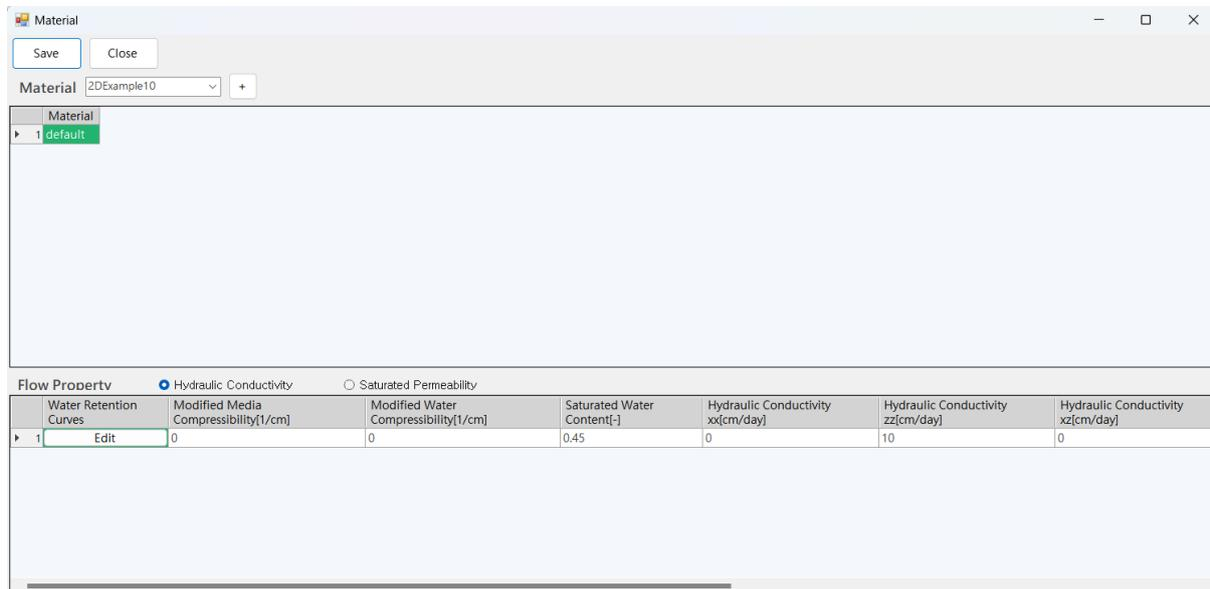
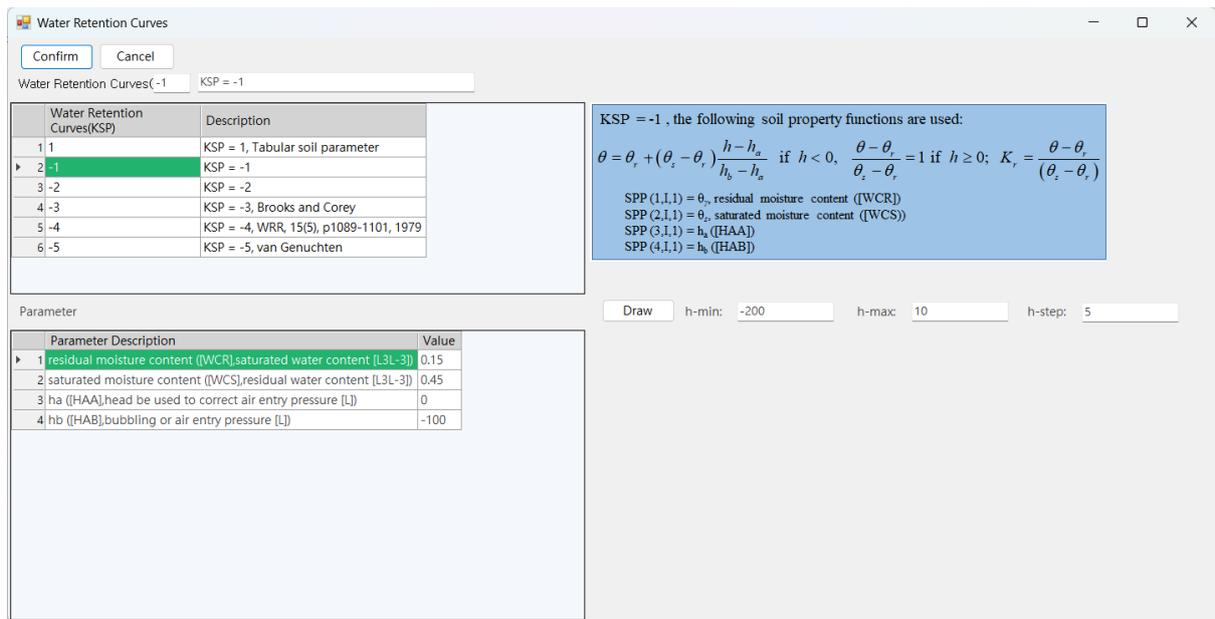

Figure 1.36. Material window.
Figure 1.37. Water Retention Curves window.
6. To input the material properties, click the 'Edit' button under 'Material'. This will bring up the 'Material' window as shown in Figure 1.36.
8. Click the 'Edit' button located beneath 'Water Retention Curves' as shown in Figure 1.36, then the 'Water Retention Curves' window will pop up as shown in Figure 1.37.